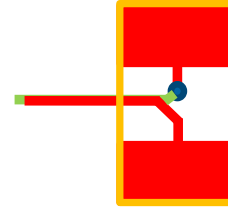

FIGURE 68. RECOMMENDED LAYOUT PATTERN FOR CURRENT SENSE TRACES REGULATOR
12. The current-sensing traces must be laid out very carefully because they carry tiny signals with only tens of mV. For the current-sensing traces close to the power sense resistor (RSENx), the layout pattern shown in Figure 68 is